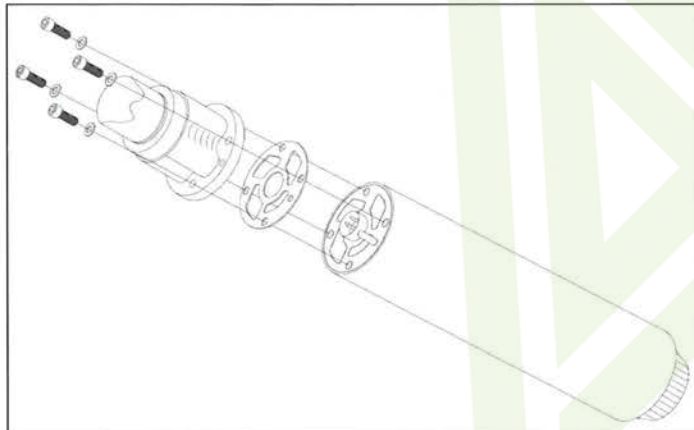

Figure 19 Replacing the gasket
4. Replace the old gasket with a new one provided. Place the new gasket on the new FSP so that all the holes align. (see Figure 19)